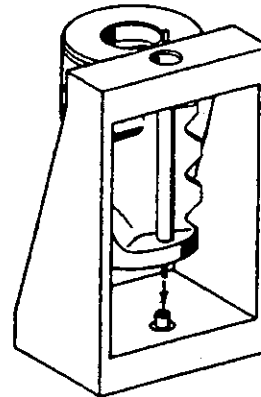

Fig.26
6.1 Versions with caulked valve insert (109) - steering limiter valve
Introduce valve insert (109) as far as possible in piston (100). Mount piston in tool [6] with the caulked area pointing upwards (Fig.26).